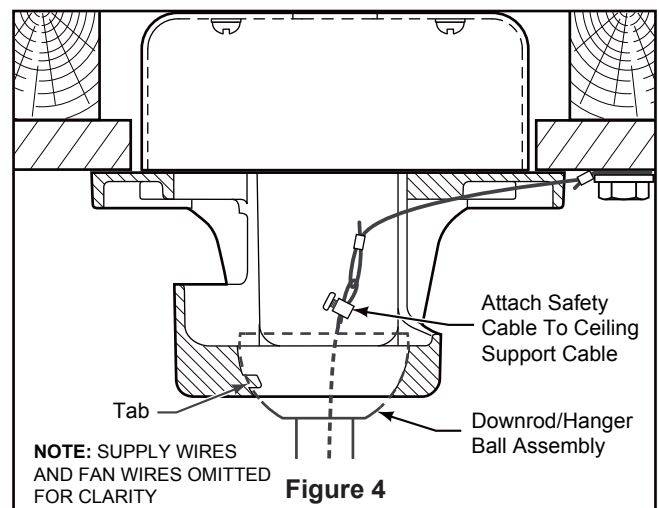

Figure 4
4. Slide downrod into the downrod support on top of the motor. Install the clevis pin by aligning the holes in the downrod support with holes in the downrod. Secure clevis pin with hairpin clip. Install and tighten the two set screws with nuts in the downrod support. (Figure 4)
4. Carefully lift the fan and seat the downrod/hanger ball assembly onto the hanger bracket that was just attached to the outlet box. Be sure the groove in the ball is lined up with tab on the hanger bracket. (Figure 4)
5. Attach the safety cable to ceiling support cable. Slide cable clamp and washer onto safety cable (from fan). Place the end of cable through the loop of ceiling support cable. Pull as much cable through loop as possible. Feed end of cable into clamp hole and firmly tighten screw. (Figure 4)
3. Connect green wires from hanger bracket, hanger ball and ground from supply using wire connector. Connect black wire from receiver unit marked "AC IN L" to black supply wire using wire connector. Connect white wire from receiver unit marked "AC IN N" to white supply wire using wire connector. Connect white wire from receiver unit marked "TO MOTOR N" to white wire from fan using wire connector supplied with receiver unit. Connect black wire from receiver unit marked "TO MOTOR L" to black wire from fan using wire connector supplied with receiver unit. Lastly, connect blue wire from receiver unit to the blue fan light wire using wire connector supplied with receiver unit. (Figure 4)
Securely attach 9-pin connector from motor assembly to wiring harness socket within light kit assembly. (Figure 4)
- 4.** To set the remote code in the same positions as the receiver, use a small screwdriver or ball point pen (neither included) to slide dip switches firmly up or down. (Figure 4)